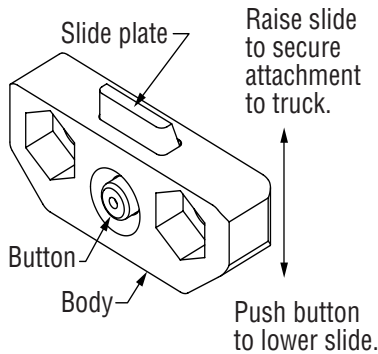

Figure 5-44, Quick hook
2. Slightly raise the truck carriage to remove the bottom mounting hooks. If the attachment is equipped with quick hooks, simply press the slide plate release button and drop the slide plate down. (Figure 5-44)